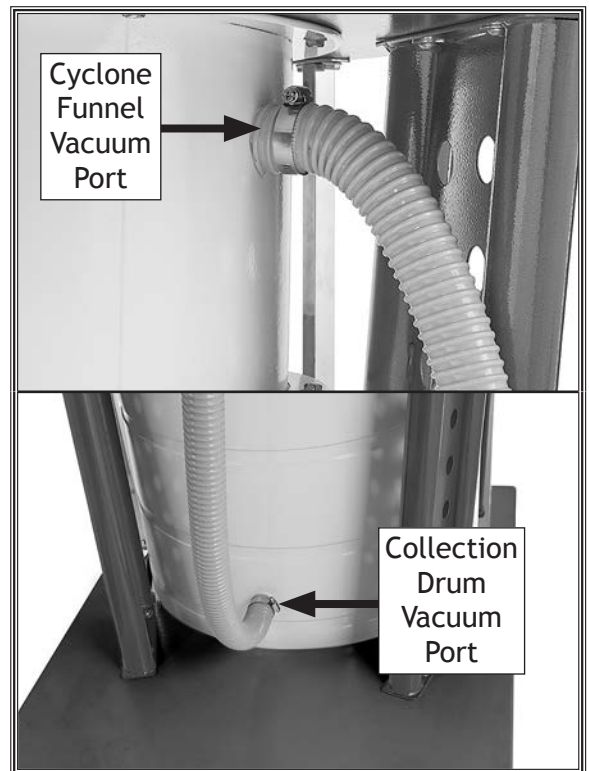

Figure 22. Vacuum hose connections.
24. Place 1 3/4" hose clamps on each end of 1 1/2" x 60" vacuum hose, then connect hose to ports on cyclone funnel and collection drum (see Figure 22).